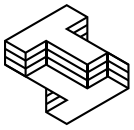

Figure 4:
- a. Standard empty aluminum 12-ounce (340.2 g) can with tab removed (see Figure 4)